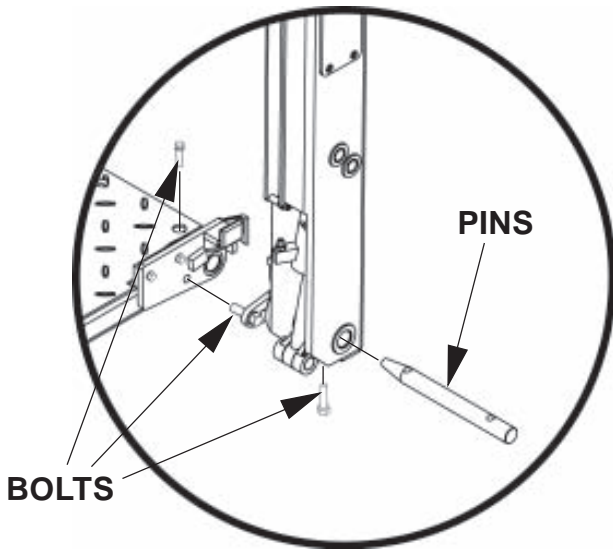
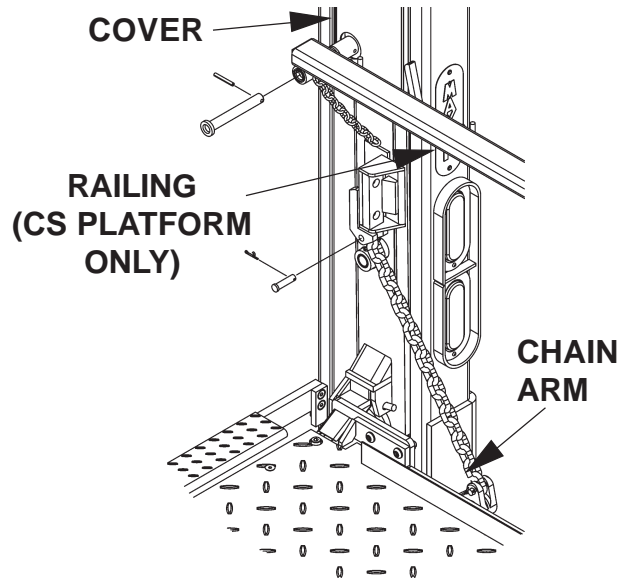

FIG. 7A
FIG. 7B
2. Remove the Bolts and Pins (**FIG. 7A**) holding Platform and Connector Bar to Runners. Next, remove Cotter Pins and Pins to remove Chain Arms from both Runners. If Liftgate is equipped with CS Platform, remove Roll Pins and Pins to remove Railings from (**FIG. 7B**) both Runners. Unbolt and remove Cover from Runner.